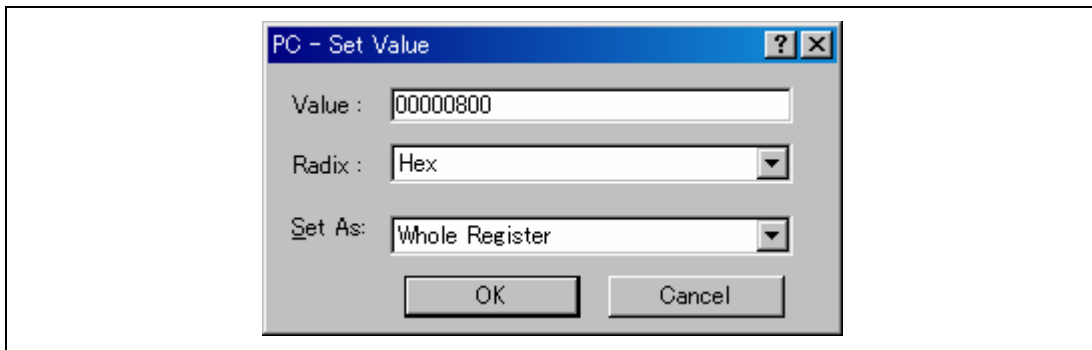

Figure 6.8 [Register] Dialog Box (PC)
2. If program execution is failed, select [Reset CPU] from the [Debug] menu, reset the device, and restart the procedure from figure 6.8.